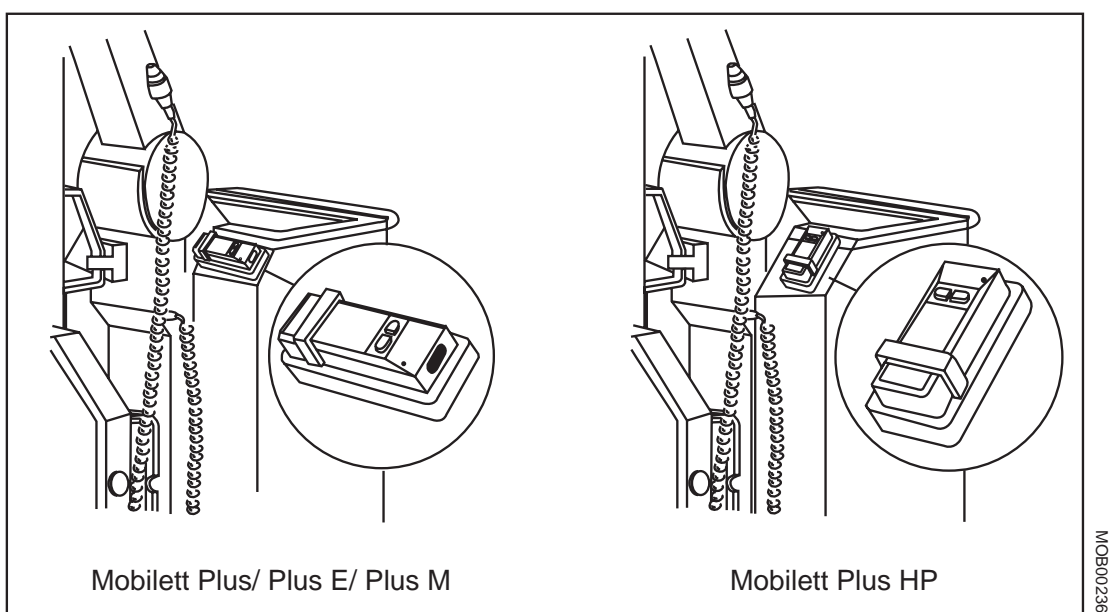

Fig. 7 Placing of remote holder on Mobilett
5. Tape the remote holder to the Mobilett as suggested in Fig. 7. Place the remote (with the remote finder feature and low battery indicator) in the holder, and store the second spare (included in the delivery) in a safe place in the Radiology Department.